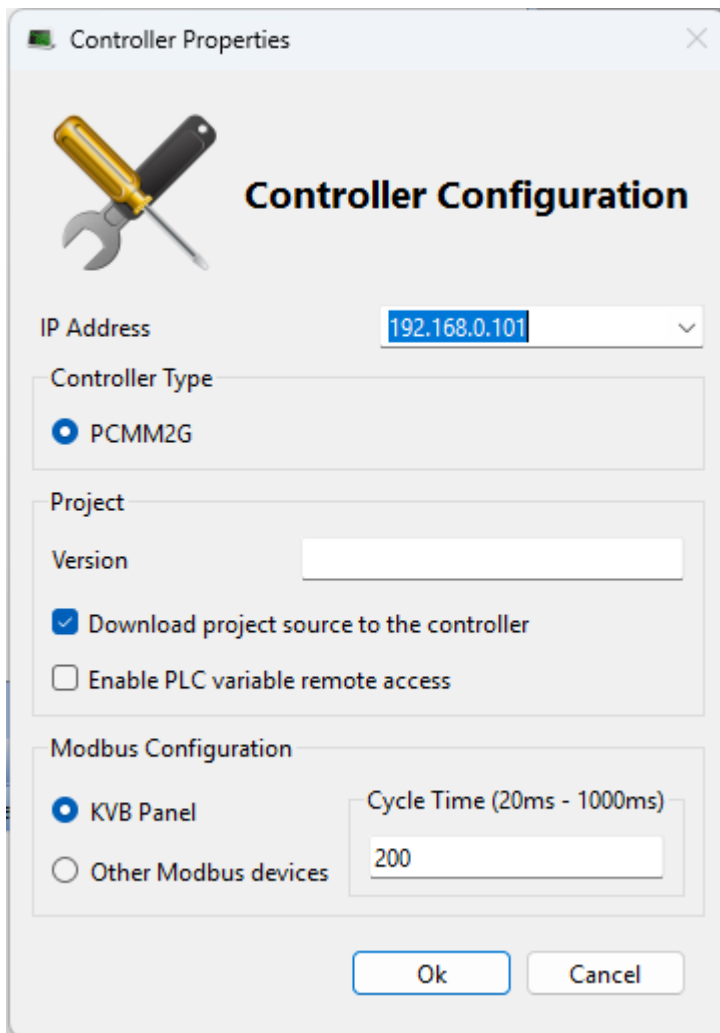

Figure 4-2: Controller Properties dialog box
1. In the Project Explorer, right-click the new controller to open the menu and click **Properties**. The Controller Properties dialog box opens. (Figure 4-2)